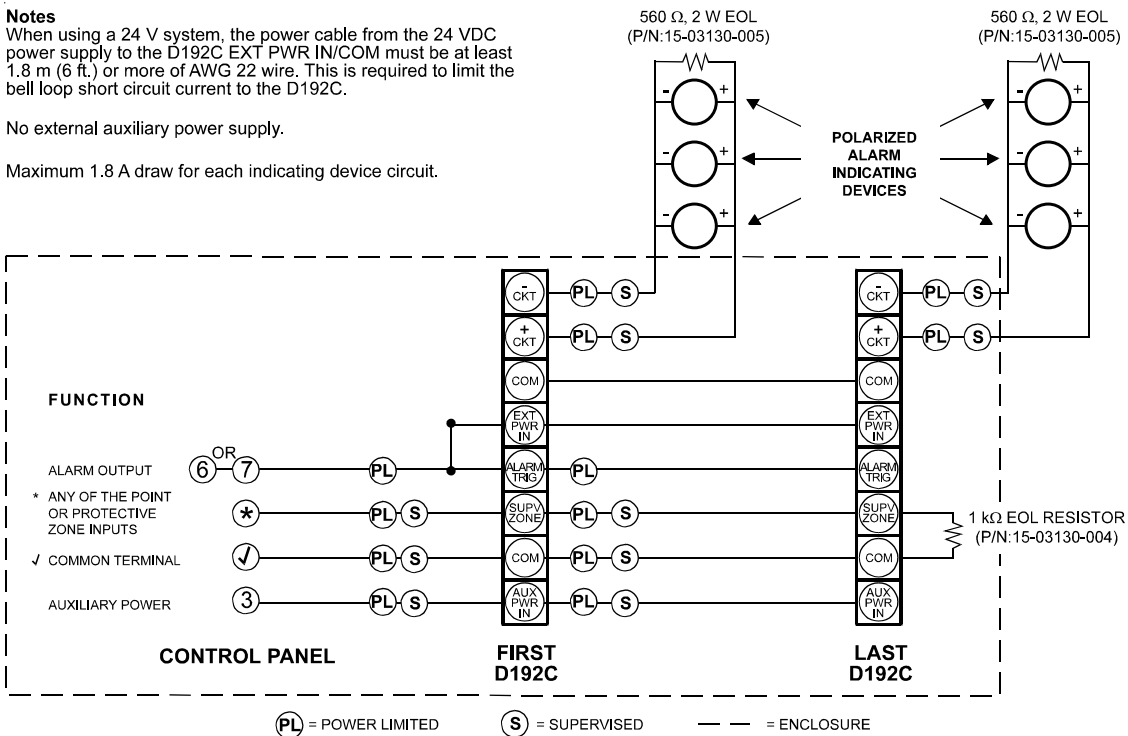
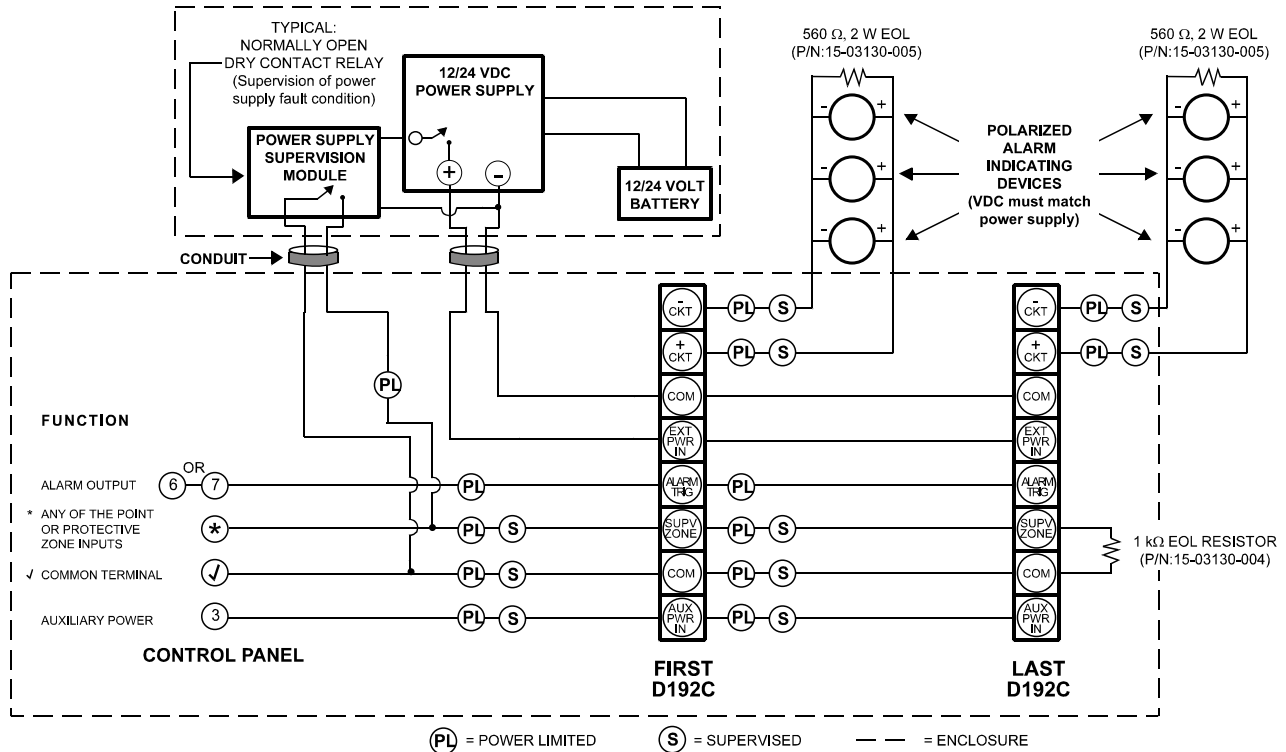
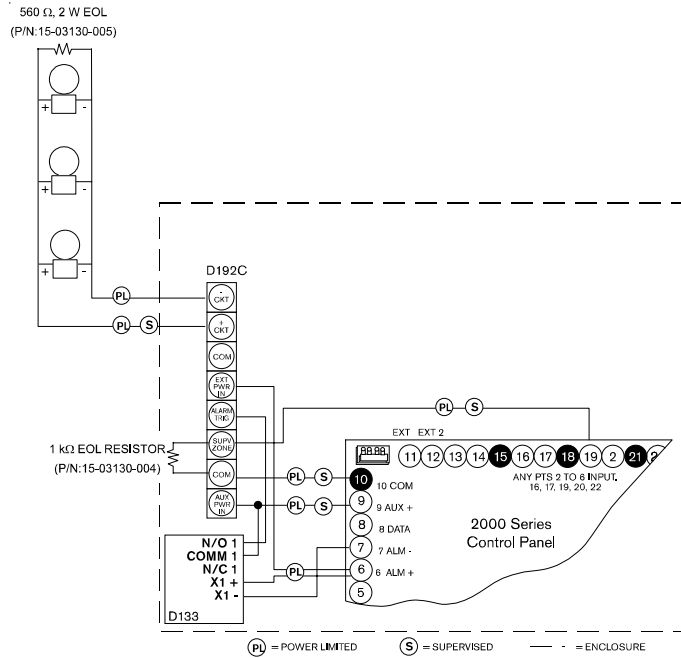

Figure 2: Connection without External Power Supply
Figure 3: Connection with 12 V or 24 V External Power Supply
Figure 4: Connection with D133
D192C Module Current	Idle: 25 mA Alarm: 50 mA Maximum rating of module alarm circuit is 1.80 A. Alarm power comes from an external power supply, or the panel's alarm output terminal, if one is used (refer to Figure 2 on page 4)
P105F End-Of-Line Resistor (sold separately)	Locate on the last D192C Module in the circuit. Refer to Figure 2 and Figure 3 (page 5). Bosch Security Systems (P/N: 15-03130-004): 1 k Ω , 1/2 W Bosch Security Systems (P/N: 4998140608): 1 k Ω , 1/2 W (package of 8)
2. Depending on the power supply used, wire the D192C according to *Figure 2*, *Figure 3* (page 5) or *Figure 4* (page 6).
3. Install the 560 Ω, 2 W EOL resistor (P/N:15-03130-005), included with the D192C Module, beyond the last indicating device. Install the P105F EOL resistor (P/N:15-03130-004) on the last D192C for a supervised zone or point, as shown in *Figure 2* and *Figure 3*.
The power supply fault conditions must be supervised by a UL Listed relay, as shown in *Figure 3*.
2. Depending on the panel and power supply used, wire the D192C according to *Figure 4*. If using multiple D192C modules, you can connect them to the same supervision zone/point. The zone/point must use a 1 k Ω EOL.
3. Install the 560 Ω , 2 W EOL resistor (P/N: 15-03130-005), included with the D192C Module, beyond the last indicating device. Install the P105F EOL resistor (P/N: 15-03130-004) on the last D192C for a supervised zone or point, as shown in *Figure 2* (page 4), *Figure 3* (page 5), and *Figure 4*.